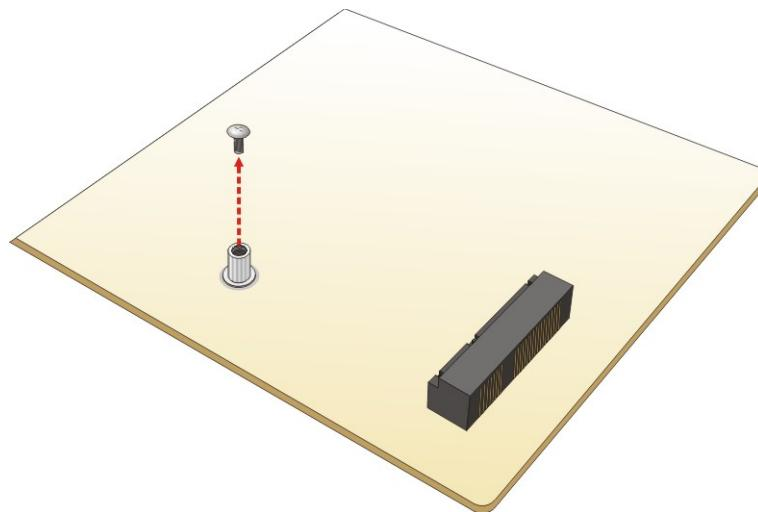

Figure 3-11: Removing the Retention Screws
Step 3: Detach the RTC battery from the motherboard, and remove the retention screw as shown in **Figure 3-11**.